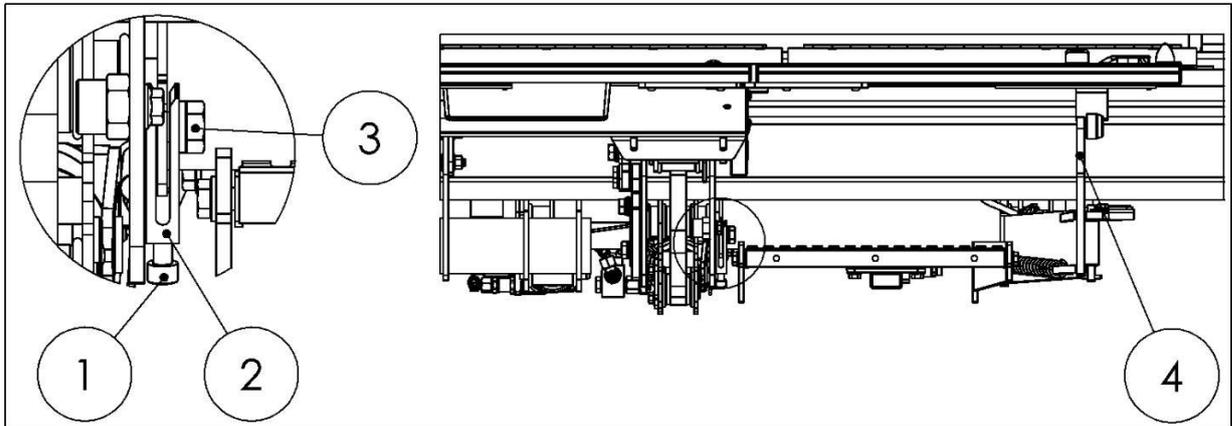

Figure 75
- If necessary, adjust the height of the fold-over section on the right side of the platform using the right-hand adjustment fork (2) (adjustment screw accessible from below) (see Fig. 75).
- Use the adjustment screw (1) to set the support arm (4) so that the platform-stop rests on and is supported by the support arm (4).